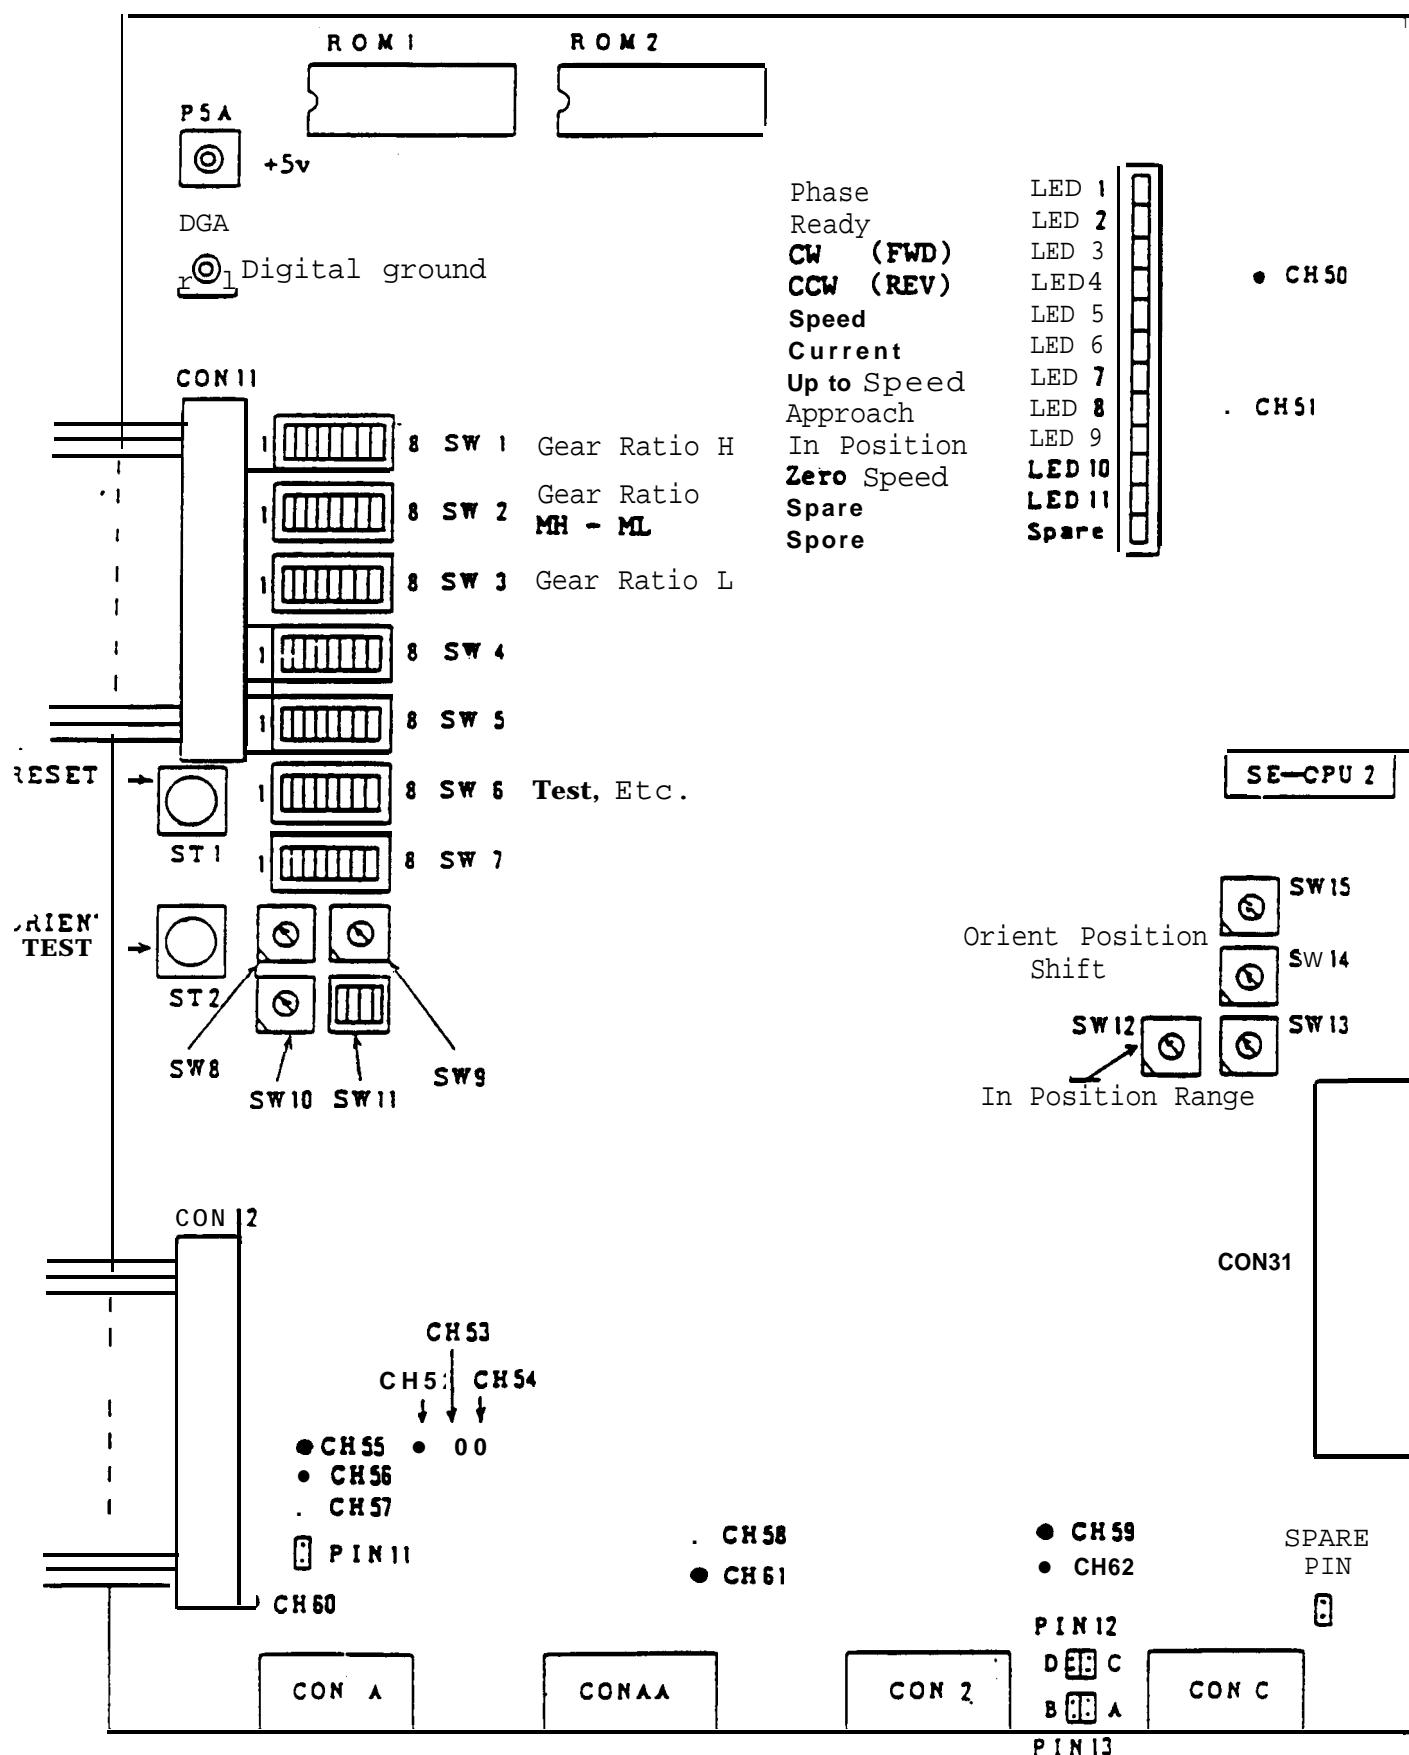

Figure 6
Refer to Figure 6 for location.
(3) SE-CPU2 Card: Set shorting pins (PIN11 through PIN13) the same as the original card. Set dip and rotary switches SW1 through SW15 the same as the original card. Refer to Fig. 6.